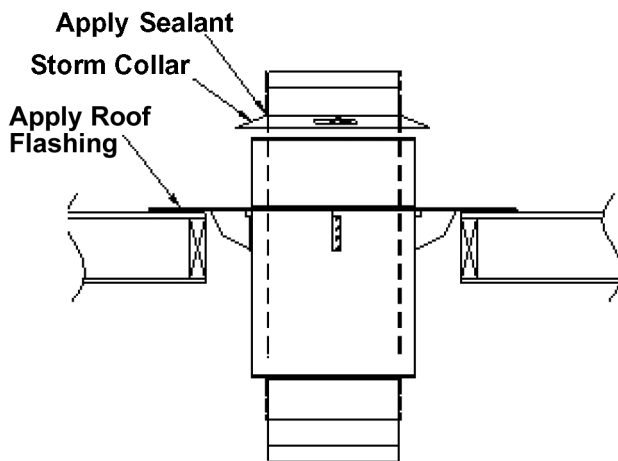

Figure 3
- Install the storm collar, supplied with the roof jack, around the vent pipe that passes through the roof jack. Tighten the storm collar, using the screw clamp. The collar should be sitting on top of the roof jack to prevent the vent pipe from slipping downward (see Figures 3 and 4).